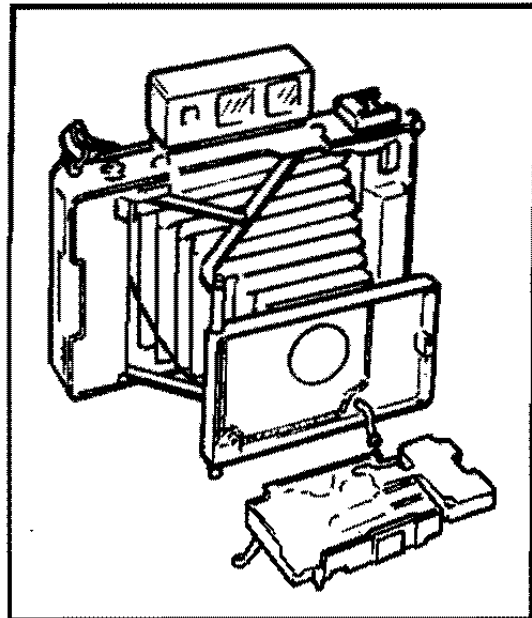

FIG. 3-7 TESTING THE PHOTOCELL
- b. Allow the base block assembly to lie flat on the work bench as shown in Figure 3-7.